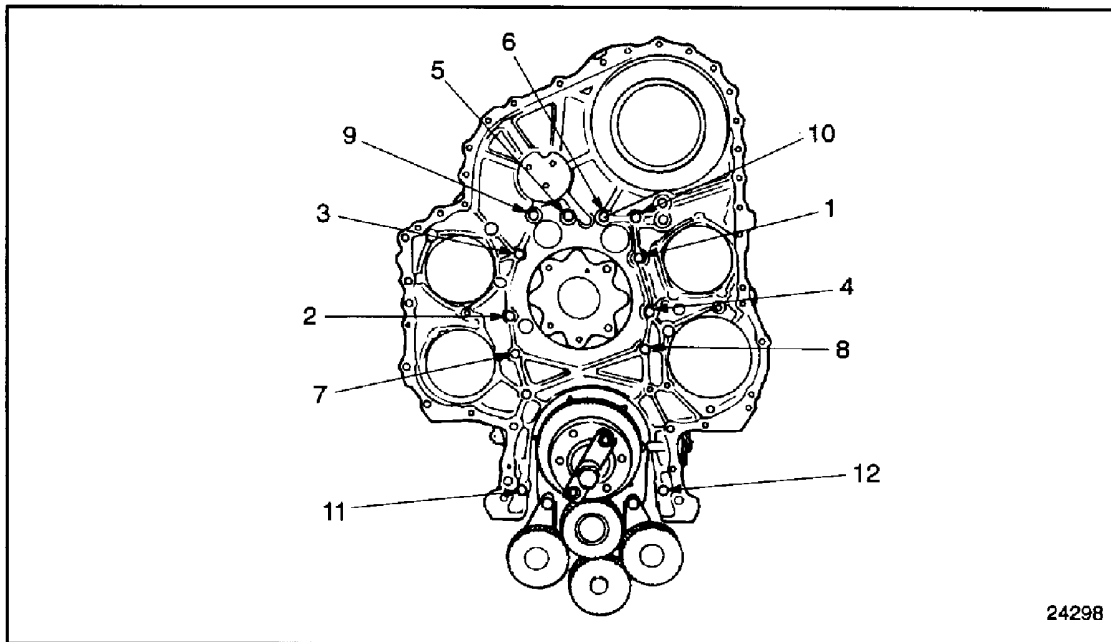

Figure 1-181 Gear Case Mounting Bolt Locations
15. Remove the 12 bolts that secure the gear case to the engine block. See Figure 1-181. Also remove the bolt that secures the gear case stabilizer bracket to the gear case.